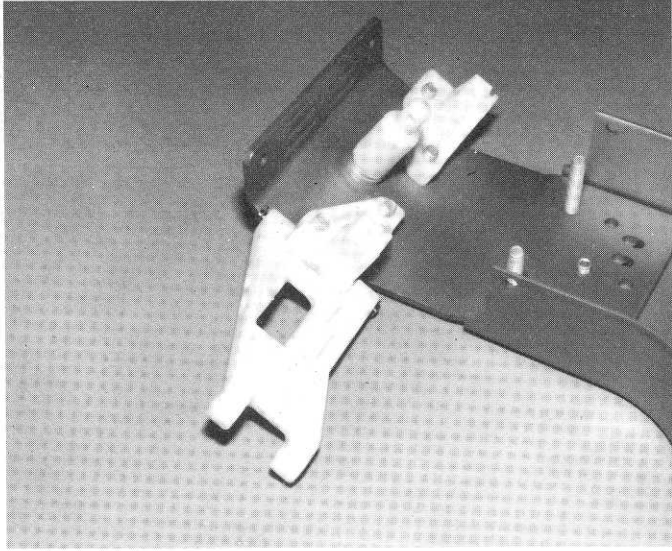

**Fig. 7**
□ **Figs. 7 & 7a** In the same bag, take out the #6206 L.H. front A-arm, the #6226 inner pin and the package of "E" clips, as shown.